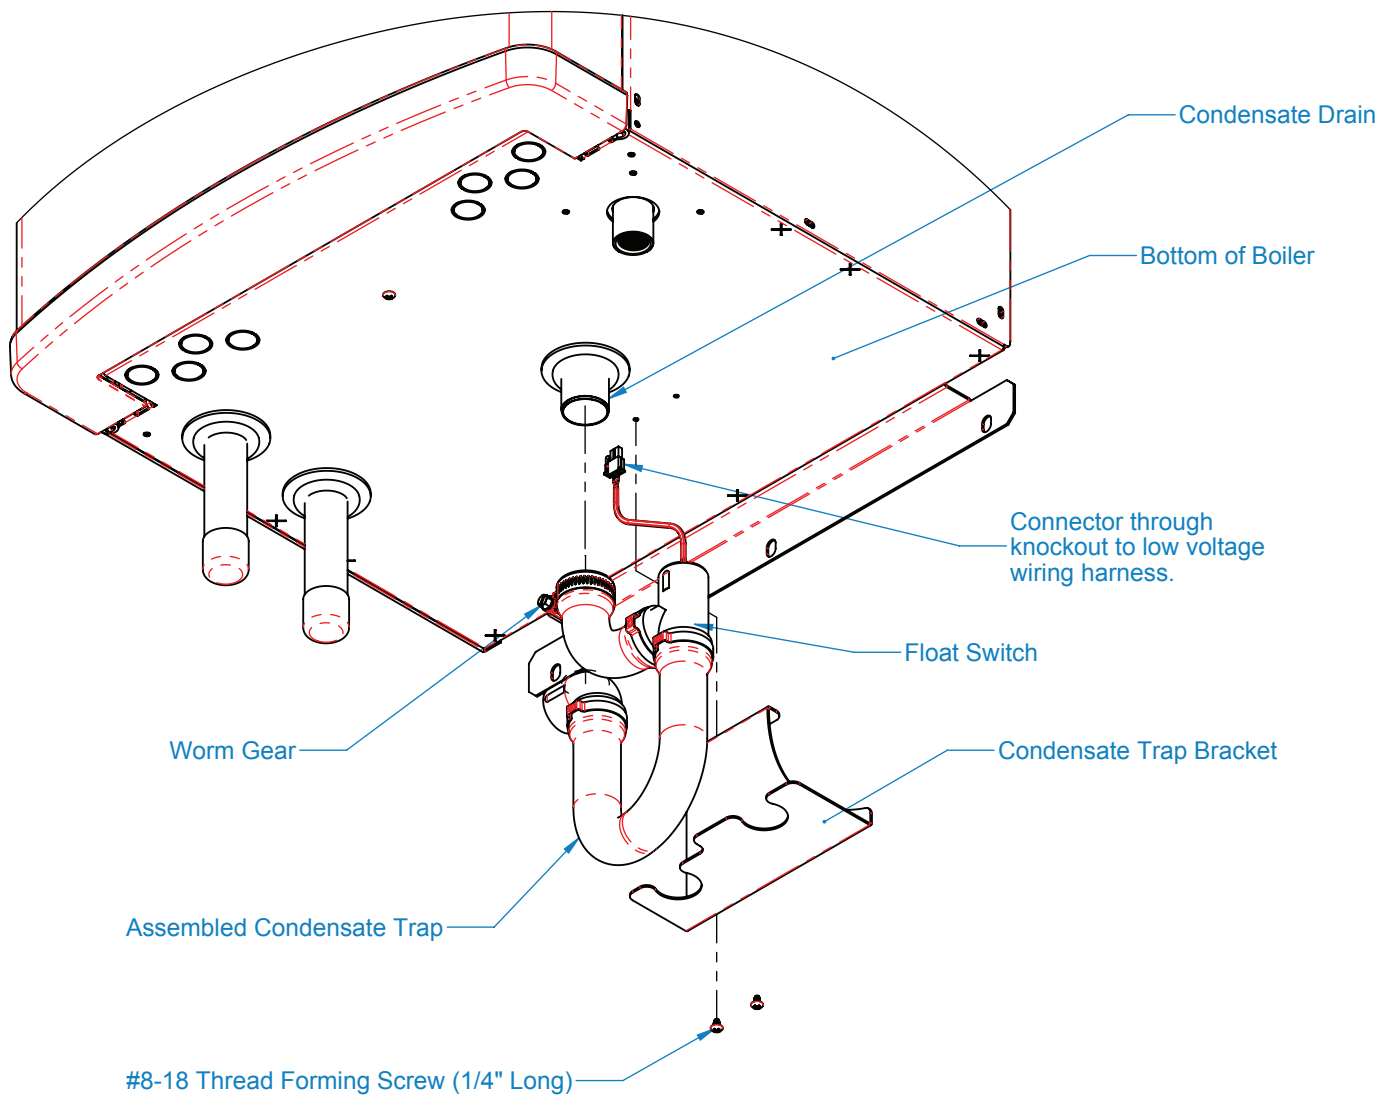

Figure 13.4: Condensate Trap Exploded Parts View
- p. **Inspect and clean the condensate trap**. Place a bucket under the condensate cleanout cap on the bottom of the boiler to catch water in the trap. Unscrew the cap. Flush any debris found in the trap with water – do not use other cleaning agents. Reassemble the trap as shown in Figure 13.4.